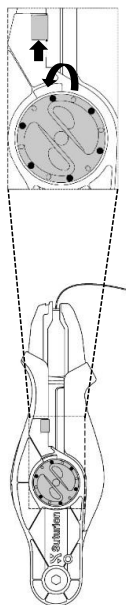

Figure 4
2. Push the needle lock indicator forward. Hold in this position while turning the adjustment wheel one mark counterclockwise (see Figure 4).